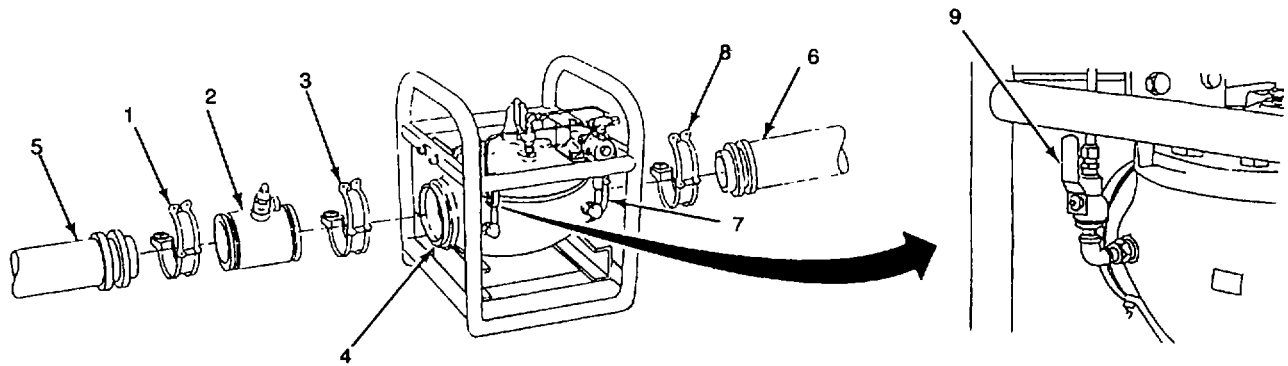

Figure 2-15. Pressure-Reducing Valve
g. Install Pressure-Reducing Valves. Perform the following (Figure 2-15):